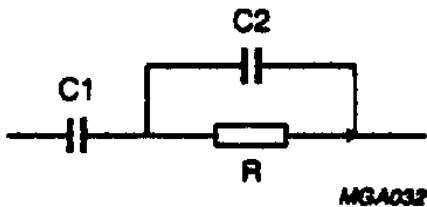

Fig.8 Loop filter.
- I_{CP} = charge-pump current (A)
- C1 and C2 = loop filter capacitors (see Fig.8)